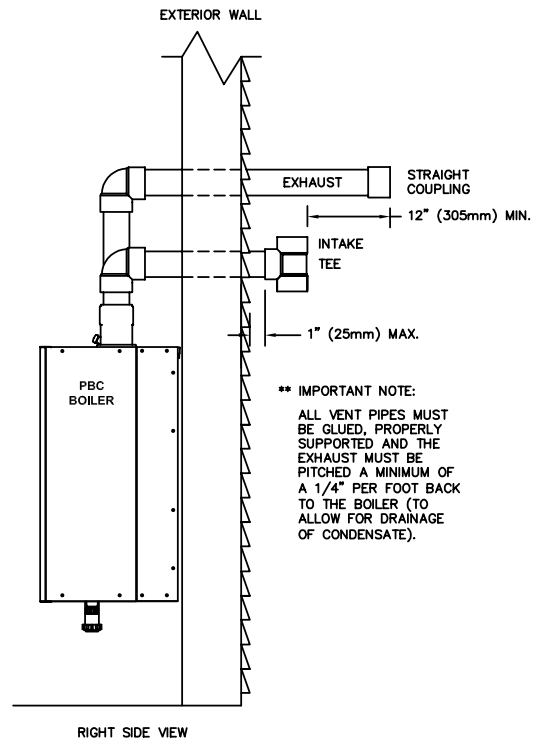

Figure 3.4: Standard Exhaust & Air Inlet Pipe Terminations
- b. Figures 3.4 through 3.7 show approved sidewall venting configurations using the standard fittings supplied.
- f. Refer to Figures 3.4 through 3.8 for sidewall venting options using PVC or CPVC pipe.